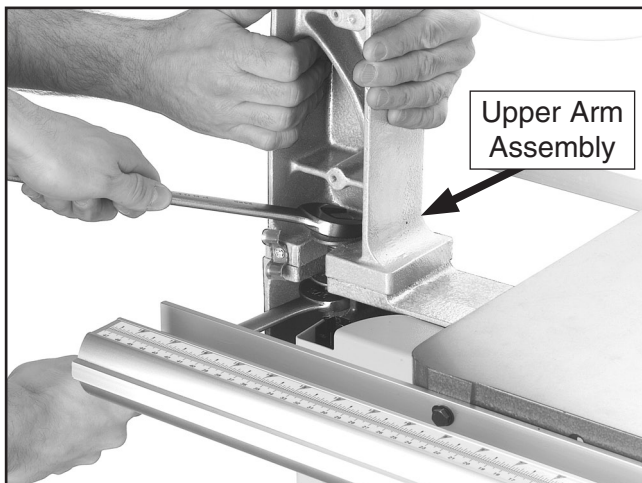

Figure 4. Loosening bolt while an assistant supports the upper arm assembly.
5. While an assistant supports the upper arm assembly (**Figure 4**), loosen the hex nut and slide the bolt out. Remove the upper arm and set it aside.